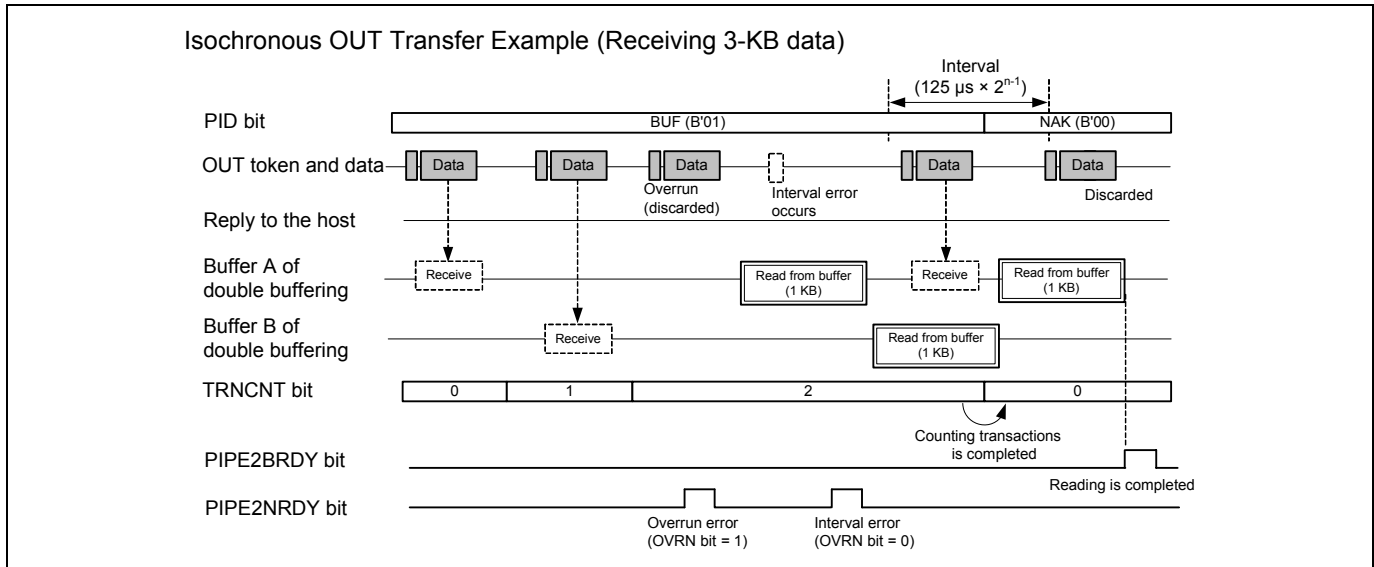

Figure 14 Isochronous OUT Transfer Example
Table 2 lists the setting example of isochronous OUT transfer using pipe 2. Figure 14 shows the operation example using the setting listed in Table 2. Double buffering and continuous transfer mode are enabled in this example. To use the DMA transfer effectively, specify the BRDY interrupt to occur when reading data is completed. For details, refer to (1) to (9) described in following pages.